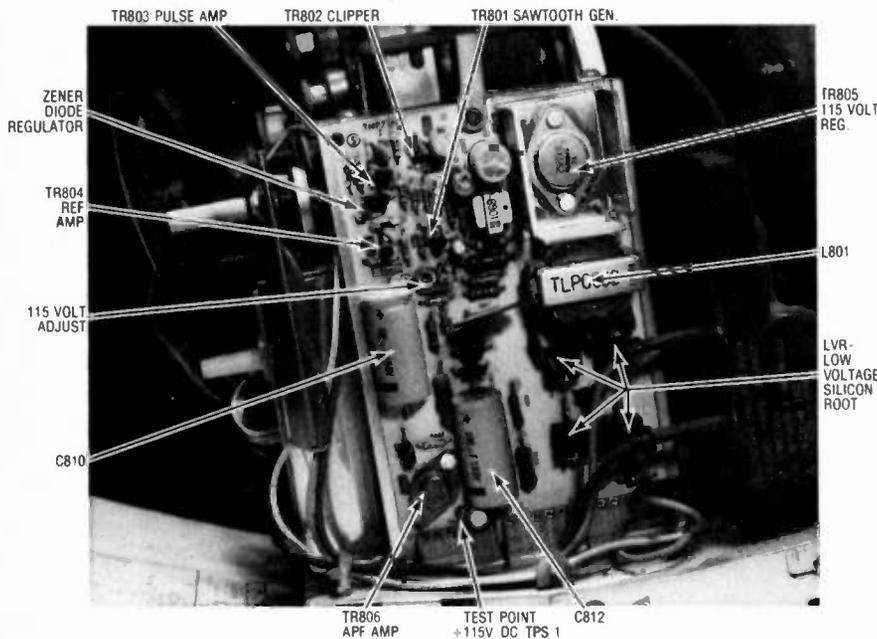

Fig. 12—Here is a photo layout of a Panasonic ETA-1 chassis which is found under J.C. Penney and other labels.
When no output voltage is found at S4 (+115V) suspect problems in the regulator system (Fig. 12). Measure the voltage at the anode terminal of TR805 which should be around 107.5 volts. If no voltage is found at the cathode (K) terminal, go directly to the sawtooth oscillator (TR801) with the scope.